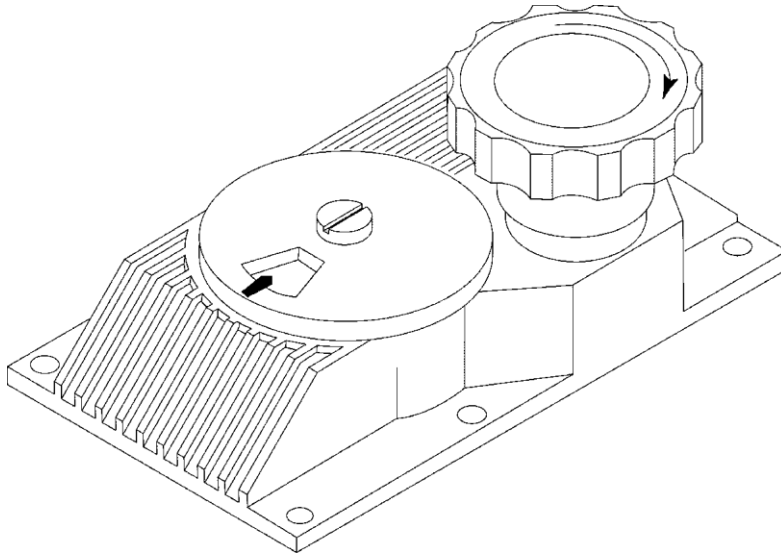

Figure 30 – Manual Cover Assembly
3. Remove the six Phillips Head screws that hold the Manual Cover Assembly to the Eccentric Box (refer to **Figure 30**).